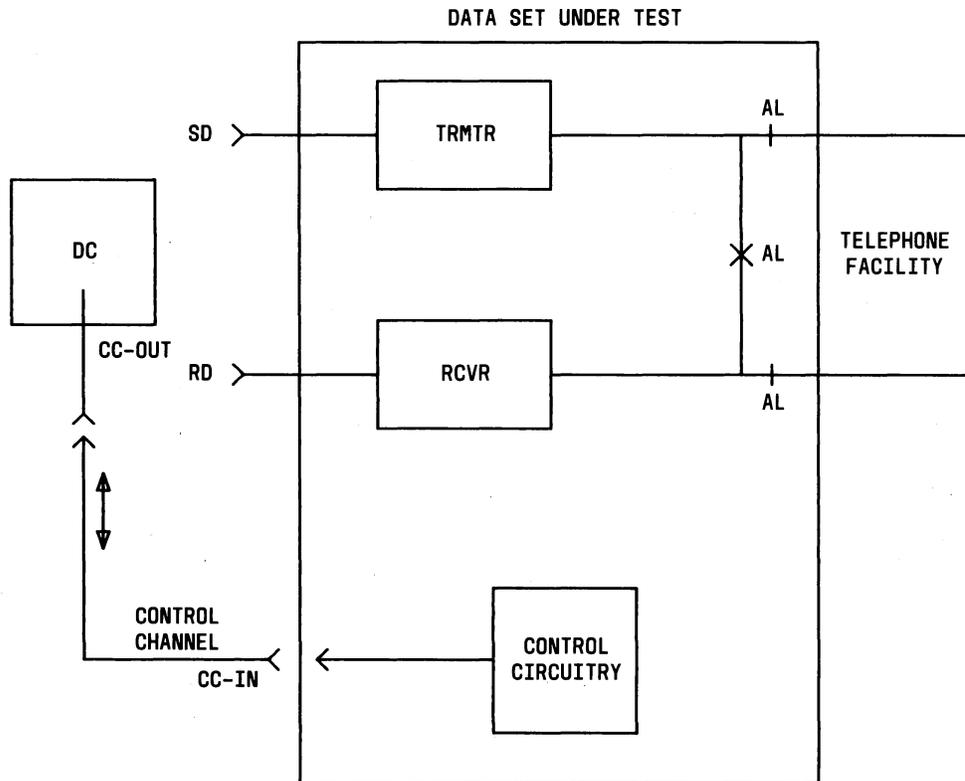

Fig. 11—Analog Loopback Subtest
3.54 In the analog loopback subtest (Fig. 11) the output of the data set transmitter is connected